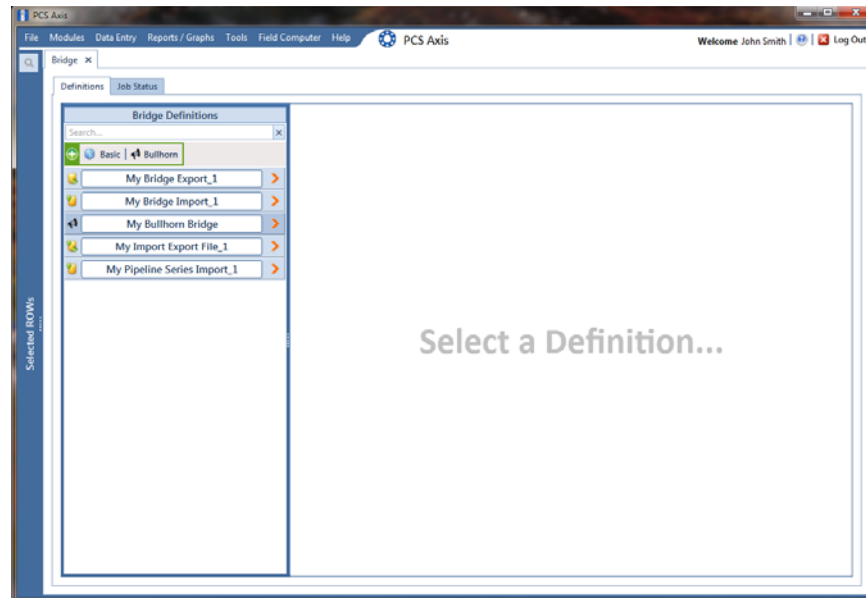

Figure 10-55. Select Definition
- 2 Click **Tools** > **Bridge** to open the *Bridge* window (Figure 10-55).